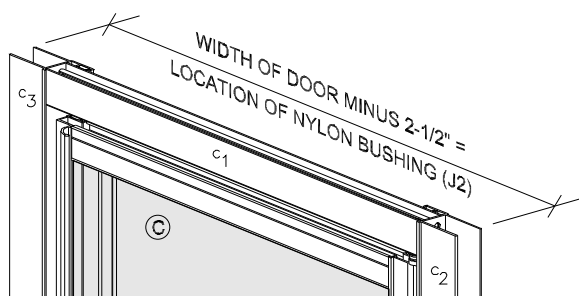
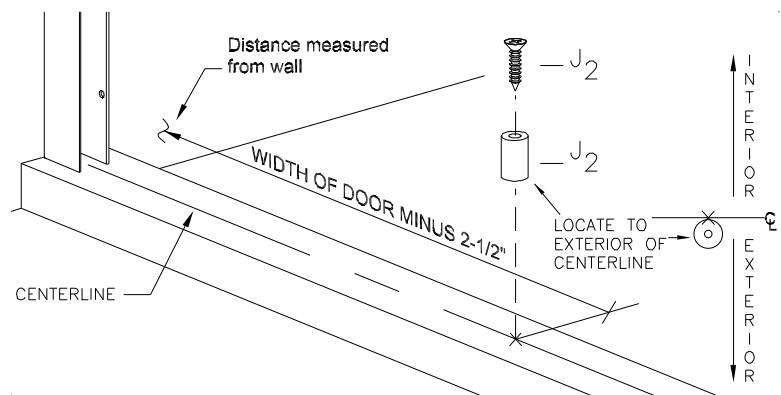

figure 2
figure 2a
Measure the width of Door Assembly (C) as shown in figure 2, then mark the CHSL-KIT (J) location as shown in figure 2a. Please note that Vinyl Bushing (j2) **IS NOT** centered on the centerline, but is located tangent and to the outside of the centerline as shown in figure 2a. Secure Nylon Bushing (j2) to curb base using the #6 Flat Head Phillips Screw (j1) provided.